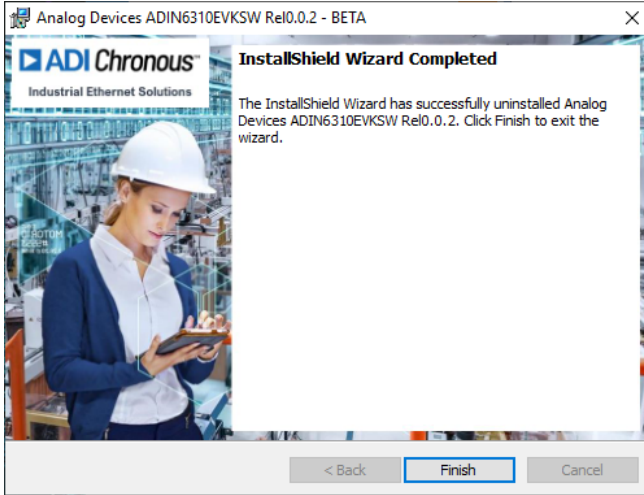

Figure 9. Remove or Repair Completes
- Follow the steps until complete, click **Finish** (see Figure 9).